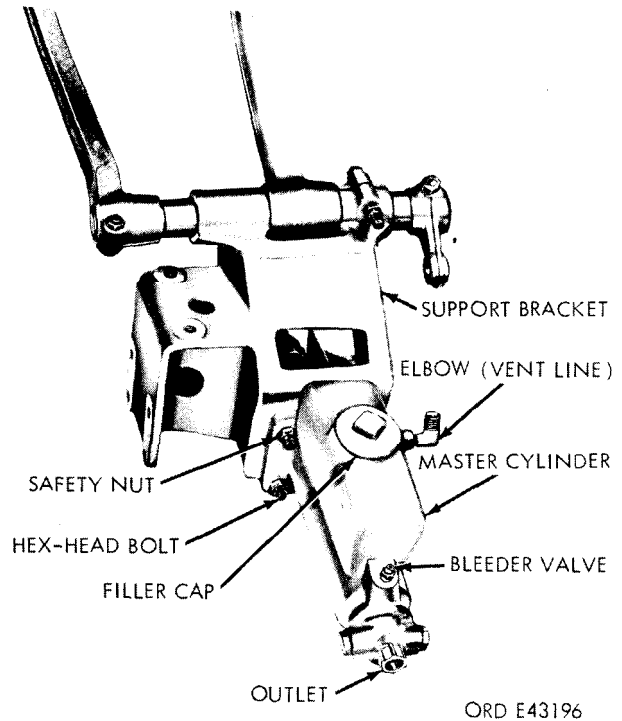

Figure 2-183. Brake master cylinder with pedal and linkage attached.
(2) Unscrew the connector securing the ventilation line to the elbow, and remove the line from the elbow (fig. 2-183).
(3) Unscrew the connector securing the hydraulic fluid line to the outlet fitting, and remove the line from the fitting (fig. 2-183).
(4) Remove the four nuts and bolts from the mounting flange on the front of the master cylinder, and remove the master cylinder from the support bracket (fig. 2-183).
(1) Position the master cylinder at the rear of the support bracket, install the four bolts in the holes in the master cylinder mounting flange and bracket, and install the four nuts on the bolts (fig. 2-183).
(2) Position the hydraulic line at the outlet fitting, and tighten the connector (fig. 2-183).
(3) Position the ventilation line at the elbow and tighten the connector (fig. 2-183).